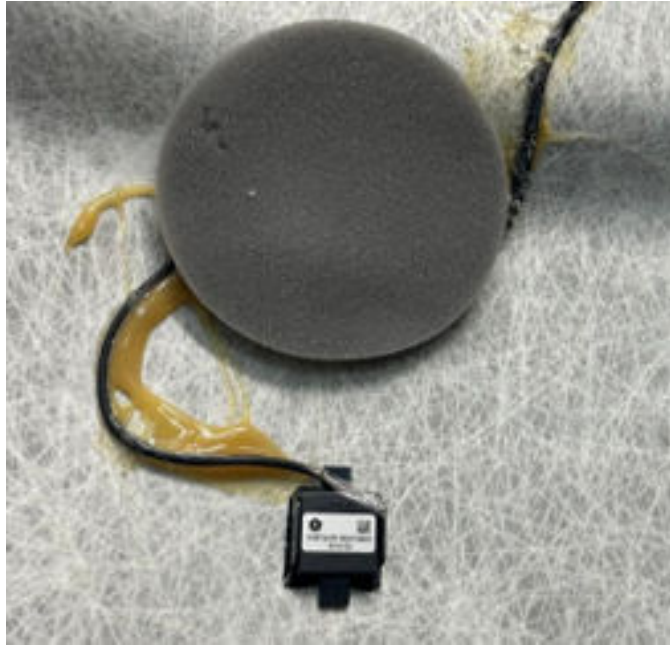

Fig. 5
4. Inspect the foam pad to verify the microphone harness connector foam pad is positioned behind the microphone Fig. 5.
5. Is the harness connector foam pad positioned behind the microphone Fig. 5?
6. Carefully remove the foam pad from the microphone connector and headliner, and relocate the foam pad to behind the microphone Fig. 5.